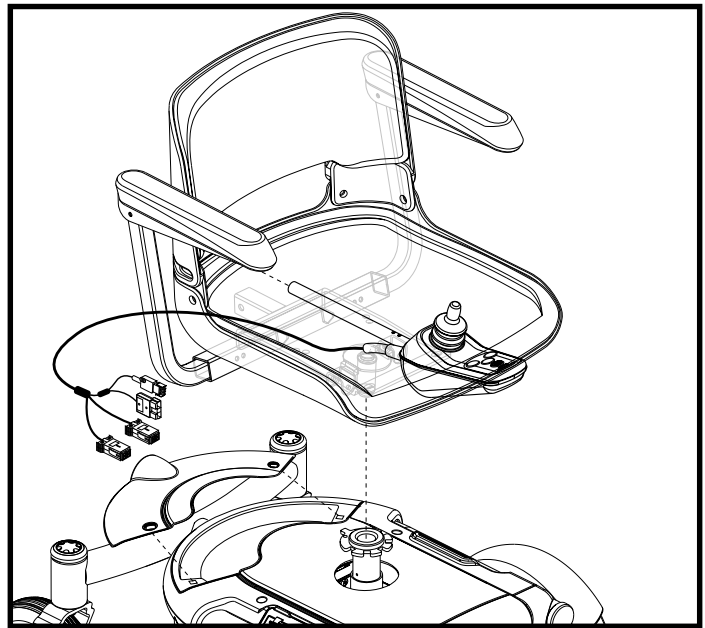
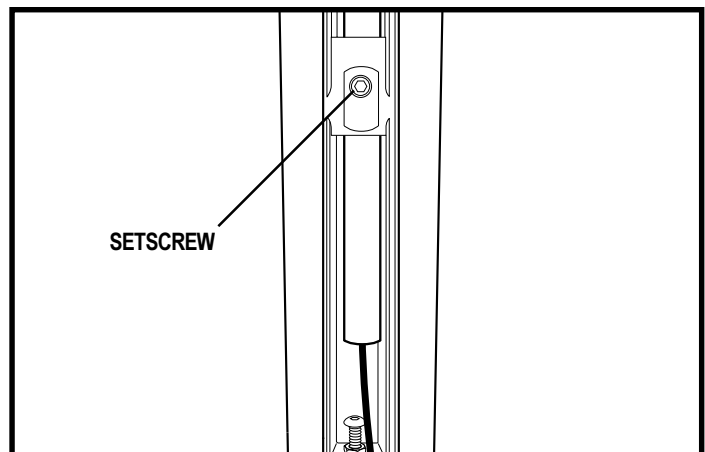

Figure 10. Seat Installation
Figure 11. Underside of Armrest
3. Set the seat onto the seat pedestal. See figure 10.
4. Install the controller into the armrest (see figure 10), and tighten the setscrew under the armrest (see figure 11).